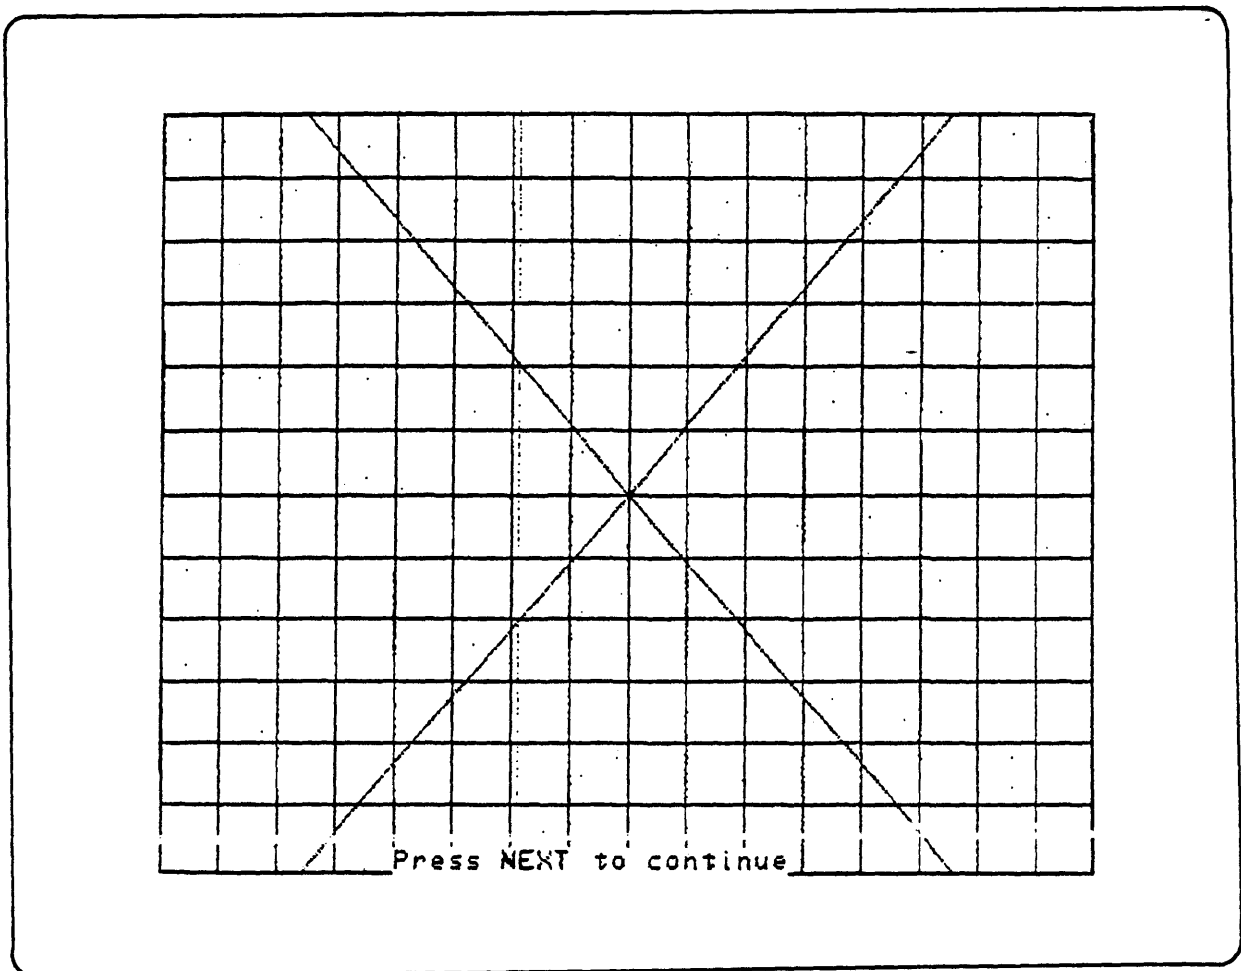

Figure 3-5. CRT Grid Pattern
10. Hold down the SHIFT key and turn the power on. A grid appears on the screen, as shown in Figure 3-5.